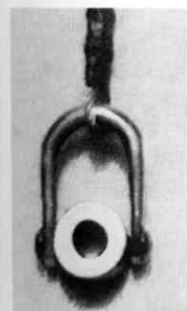

Figure 7-22
4. **Gimbal swivel spinner:** See Figure 7-22.